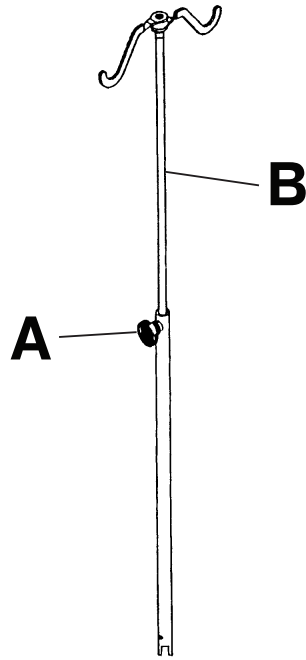

Figure 15 – Removable IV pole
2. To raise the height of the pole, turn the knob (A) counterclockwise and pull up on the telescoping portion (B) of the pole (Figure 15).
3. Turn the knob (A) clockwise to tighten the telescoping portion (B) in place.
4. To lower the height of the pole, turn the knob (A) counterclockwise and lower the telescoping portion (B) of the pole into the bottom tube.